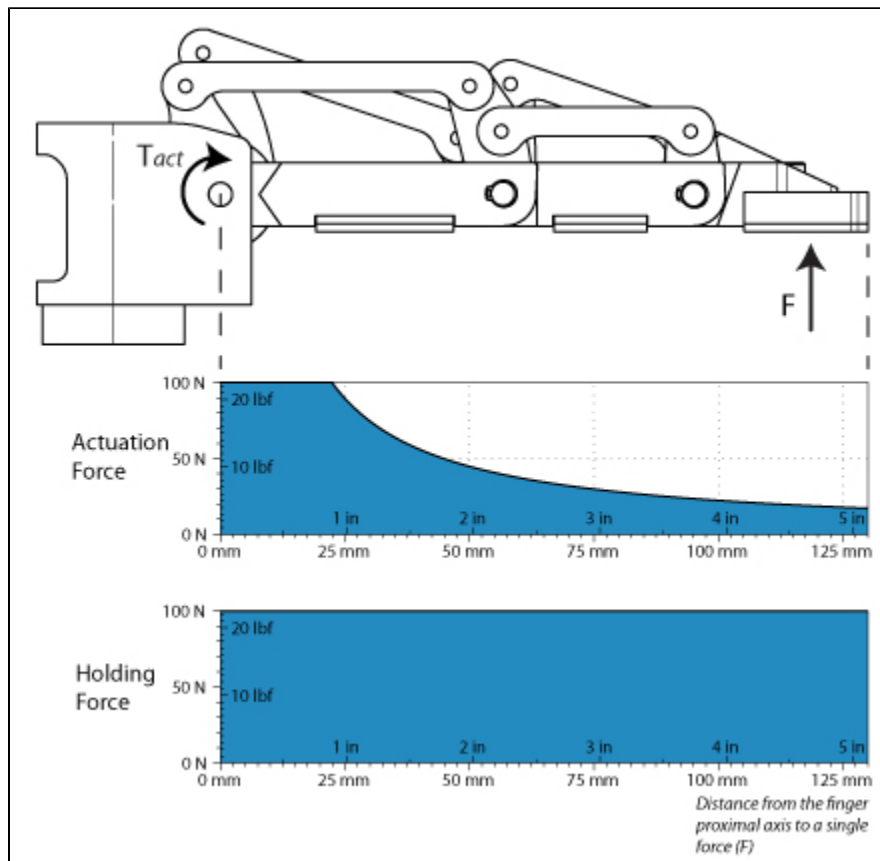

Figure 6.2.1 : Actuation and Holding Forces available in a single finger.
- Because the Gripper is self-locking, the Break Away Force is higher than the Actuation Force (see Figure 6.2.1).